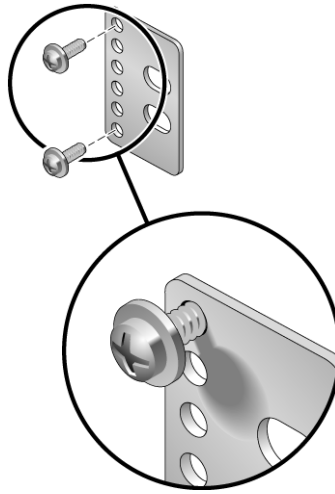

FIGURE 3-11 Installing Screws Into the Optimum Rack Position on the Rear Plate
- a. Using two of the M3 x 8 SEM screws for each rear plate, loosely install the screws in one of the six positions on the rear plate (FIGURE 3-11).
The position varies depending on the thickness of the rail in the rack. For example, FIGURE 3-11 shows where you would install the screws for the optimum rack position on the rear plate.